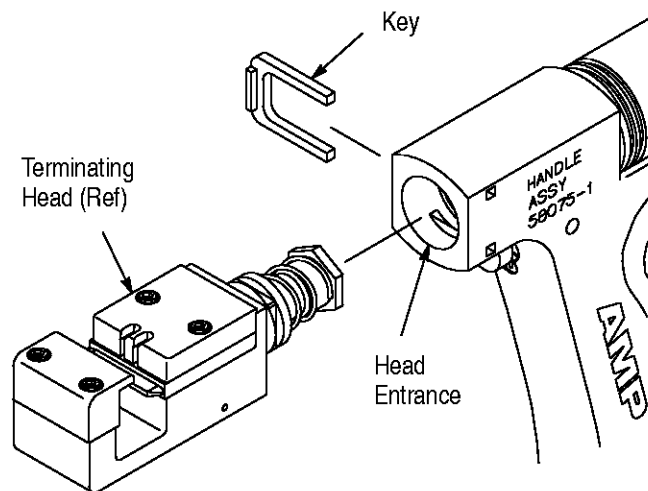

Figure 2
2. Insert the terminating head into the head entrance until the head bottoms. See Figure 2.